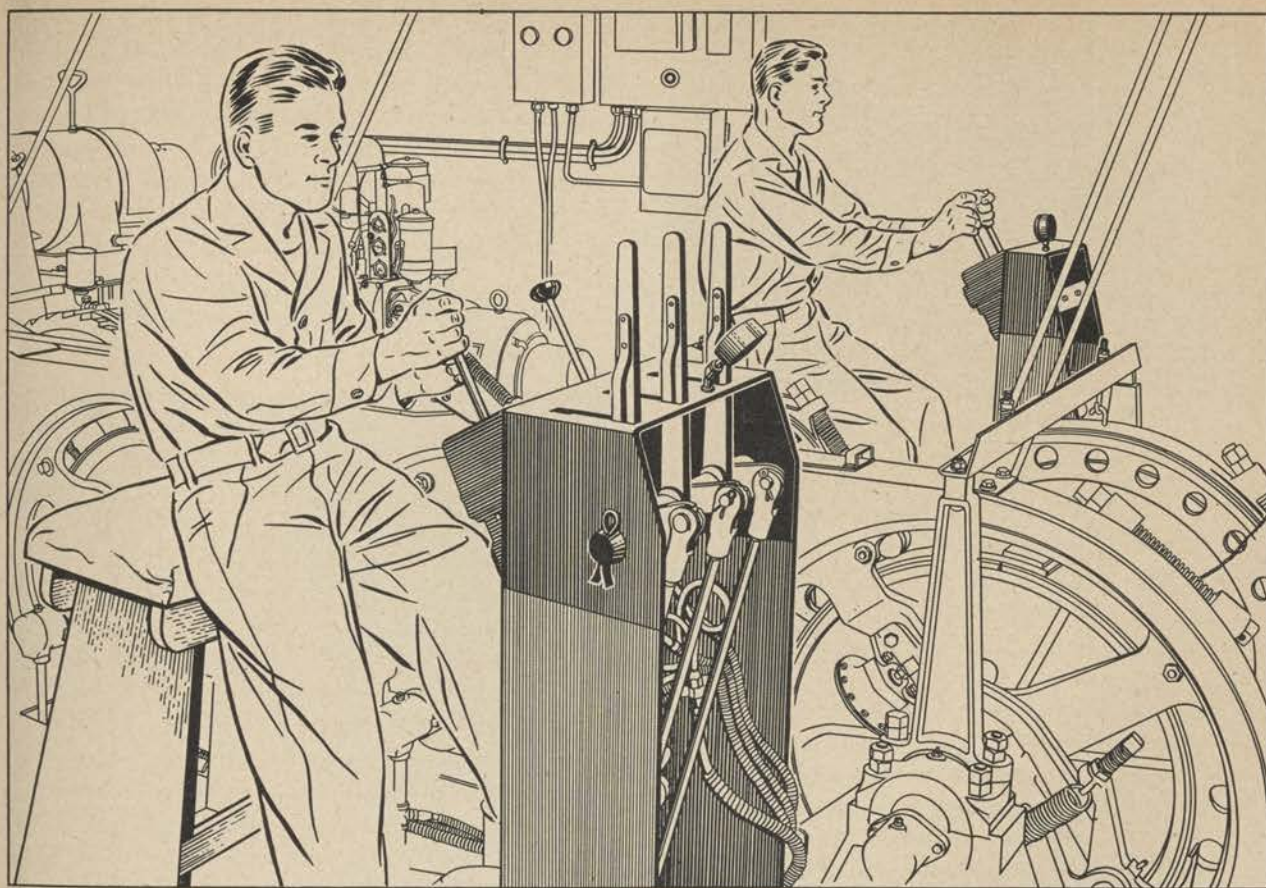

Figure 59. Hoist and derrick controls.
(2) *Hoist and derrick.* The two operators required for the operation of the hoist and derrick are seated before their respective control stands as shown in figure 59. They operate only such controls as are required to maneuver the boom, block, and whip. The throttle for controlling the speed